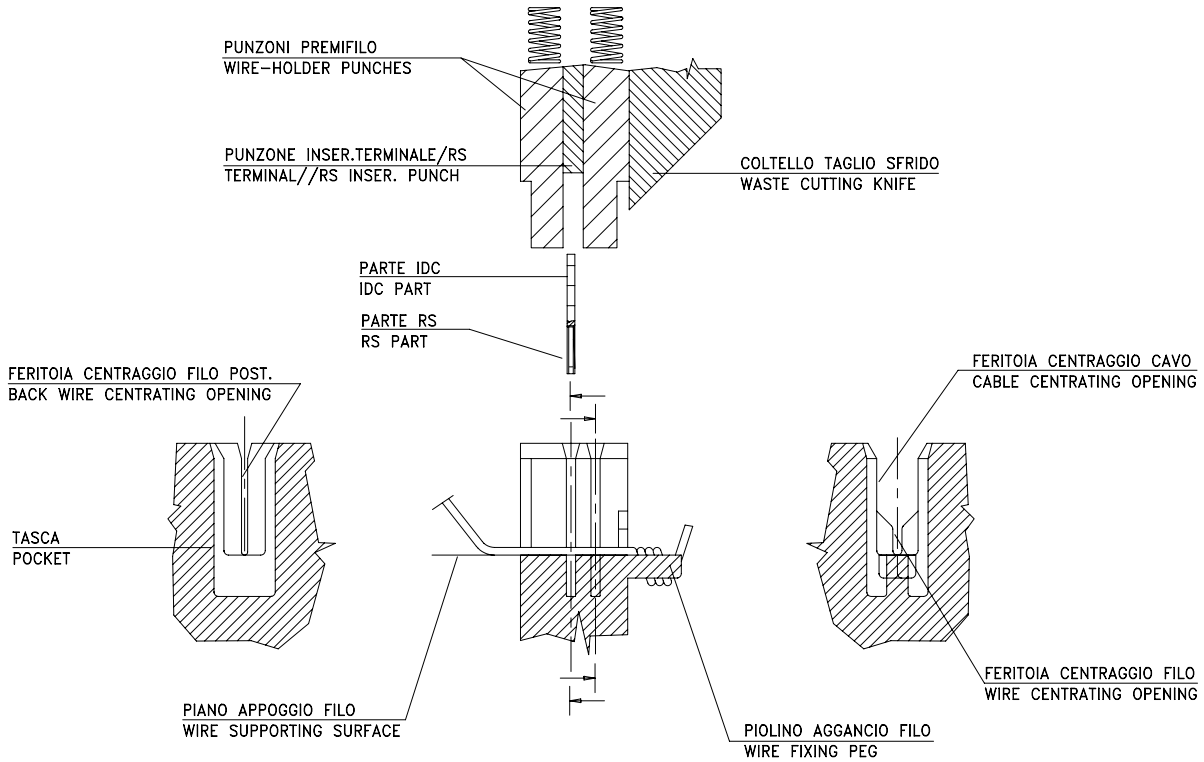
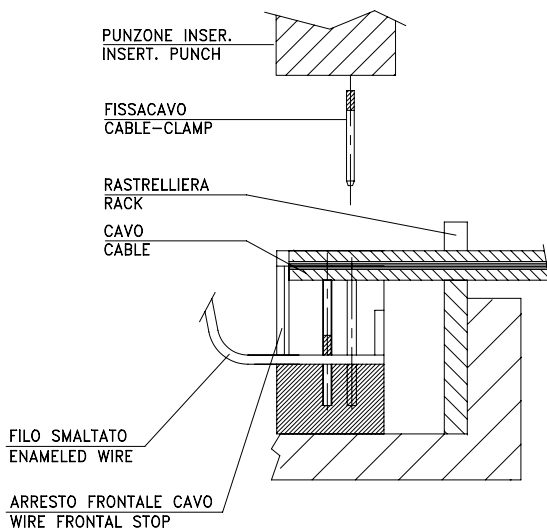

Fig. 6
Fig. 7
**a-** If a connection RS/IDC is used, the application is performed by means of n. 2 inserting machines (n. 1 for terminal "RS-IDC", n. 1 for terminal cable-clamp). In all the other cases a machine is sufficient and the exit of the feeding cables can be internal or external to the motor winding. During the first phase, the connection between wire and terminal is on the inferior part of the article "RS-IDC" (see figure 6) while during the second phase the cables connection is on the superior part of the IDC applied precedentely, by a blocking performed by means of the cable-clamp (see figure 7). The final result is the one shown in figure 8.
- their blocking by means of two wire-holder punches (see figure 6);
In the connection with cables in the upper part of the article "RS-IDC", these must be manually placed on the frontal stroke of the connector (see figure 7) and blocked on the apposite rack to guarantee a safe anchoring during the stator movement during the cable-clamp insertion. In some cases, anyway, it may be required the connection of cables in the lower part (for example protective cables). When this kind of connection is required, the pocket cannot be used to process an enameled wire. In such a case the supporting surface must be lowered of an "X" quantity in proportion to the wire diameter (this value is defined each time during the projecting phase). These cables will be cut with the same modalities of the enameled wires if placed on the inferior side. If placed on a superior level they will be blocked by a cable-clamp and the smoothing operation will be performed during the insertion of the cable-clamp itself. The connection is possible both with rigid or stranded cables as long as they belong to the range required by the article.
Each pocket has two external slits for the alignment of the wire and their dimension change in function of range of wires to work. Outside the housing body and in axis with the pockets generally are used some stakes to lock wires during working. These stakes are cut at the moment of connection and can have different shape and dimensions in function of wire diameter to work (see figure 6).
In the end more rows of pockets when application with different terminals are required or with the cable fastening, in this case the inner row is used for RS terminal whereas the external for cable fastening to grant the vibration damping (see figure 7).